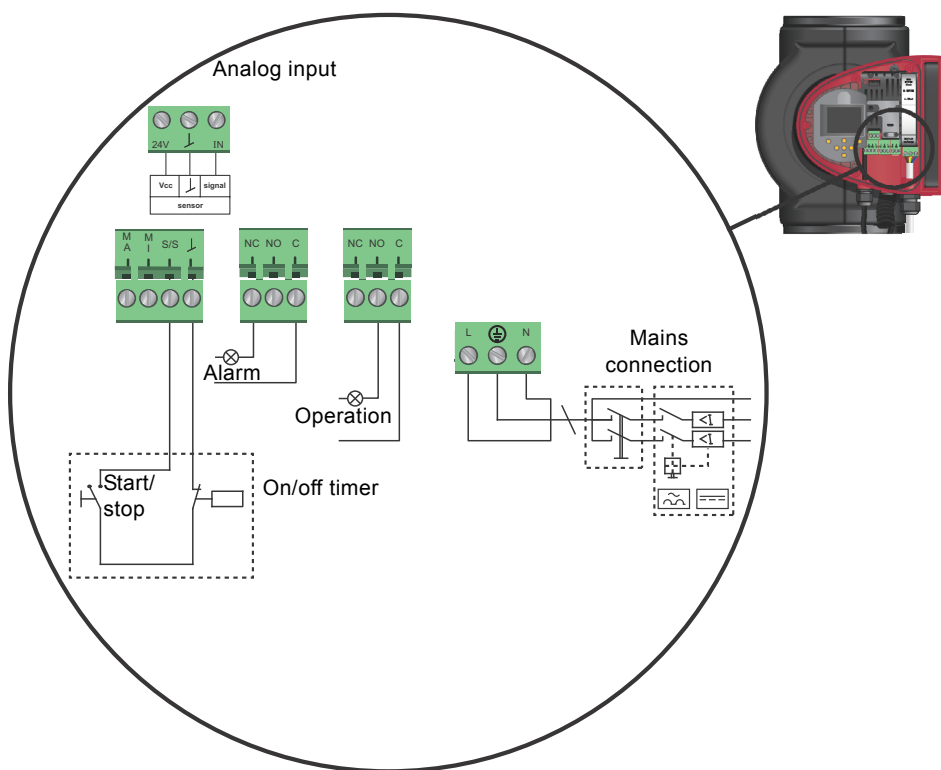

Fig. 15 Example of connections in the control box
See fig. 15, pos. 1.
See fig. 15, pos. 2.